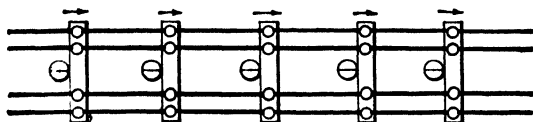

FIG. 11-39. Facing poles on steep grade. All poles face upgrade.
**Steep Grade.** Poles on steep grades should face up the grade as shown in Fig. 11-39.